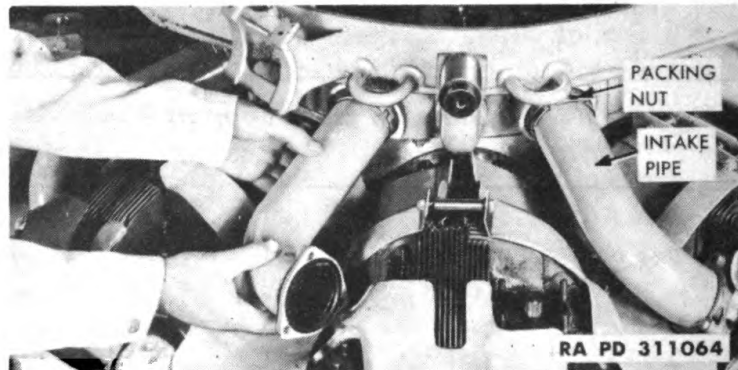

Figure 14 — Removing Intake Pipe
e. Remove Intake Pipes (fig. 14). Loosen the packing nut at the crankcase end of all intake pipes using lug wrench (5A2287). Remove three capscrews at cylinder end of intake pipes. Withdraw the intake pipes from the supercharger front housing.